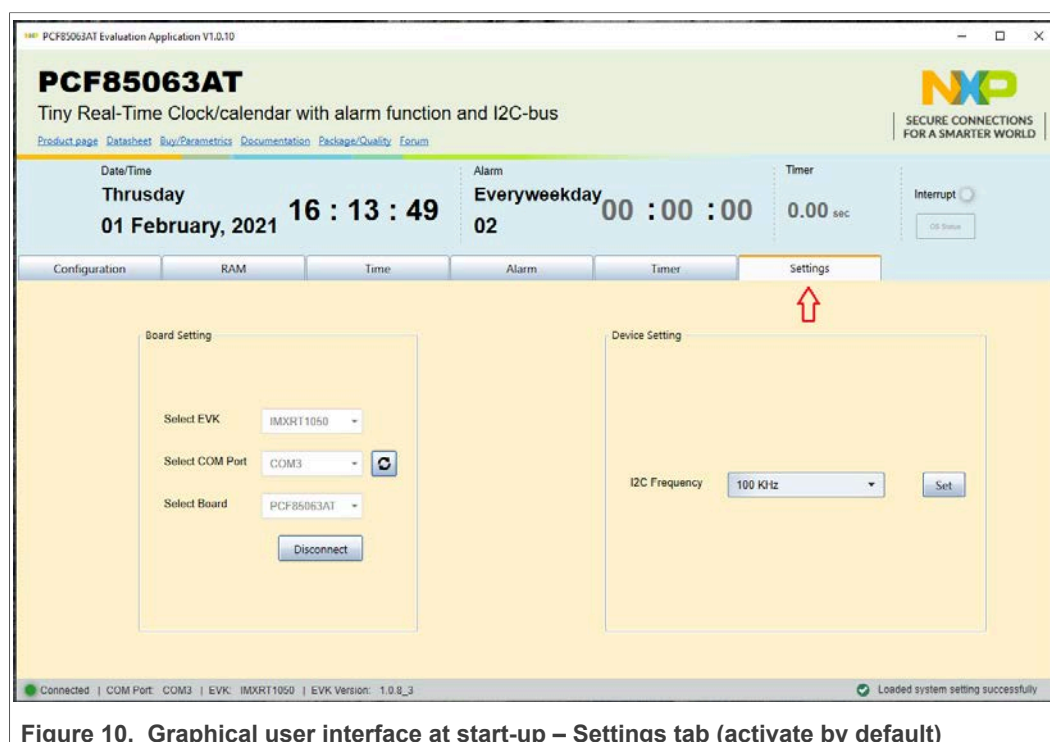

Figure 10. Graphical user interface at start-up – Settings tab (activate by default)
- **Select Board:** allows the user to select the correct daughter board (the application can support three different boards). In Figure 10, the selected board is **PCF85063AT**.